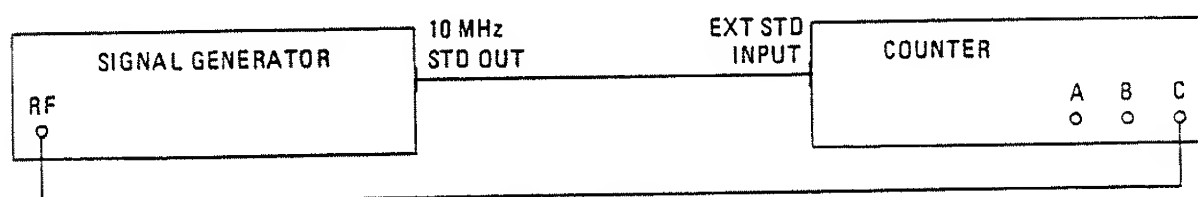

Fig. 6.11 Connections for Input C Sensitivity PVP
- (1) Connect the test equipment as shown in Fig. 6.11.